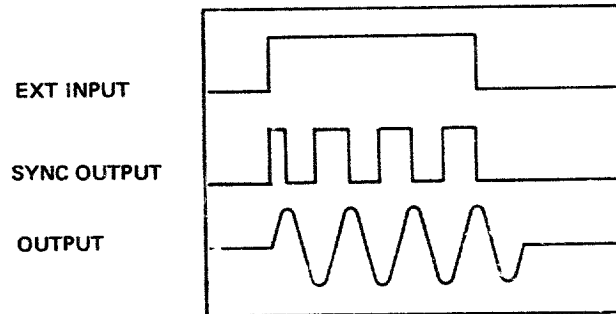

Figure 4-9. Example of correct gate operation
- Set 8116A to GATE mode. Verify that each positive gate releases a burst of output cycles and that each cycle is complete (Figure 4-9).